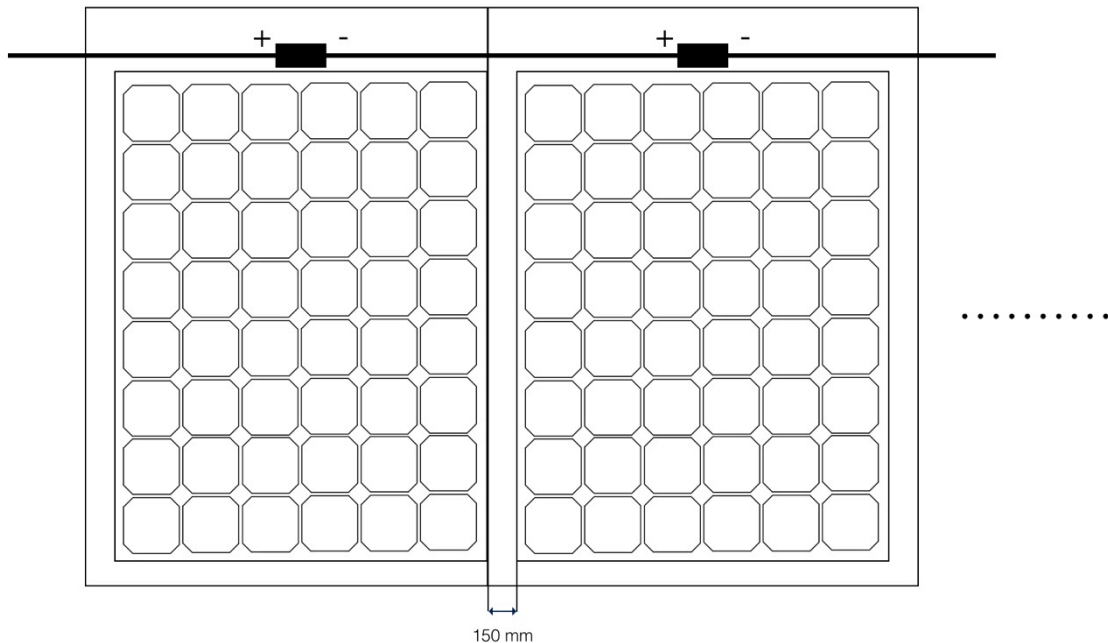

Figure 3: Welding multiple solar panels on to roofing membrane or other membrane surface
- The solar modules should be welded to each other by their neighbouring edges as shown in Figure 3.